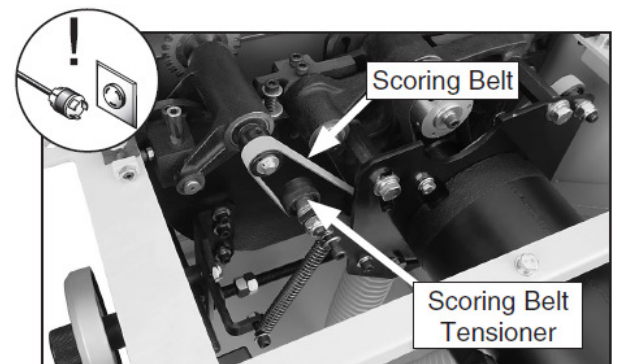

Fig. 21
2. Place the flat belt on the scoring blade arbor (Fig. 21), lift the scoring motor and slide the flat belt over the scoring motor pulley. (Option)